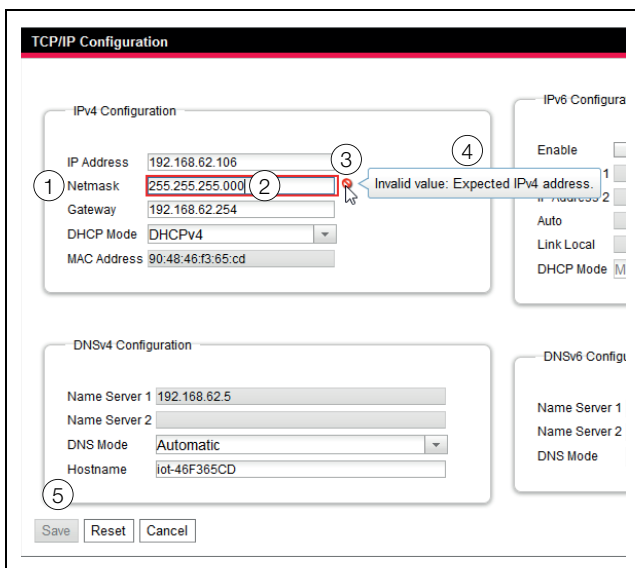

Fig. 22: Display of an incorrect input
- A red "prohibit symbol" (fig. 22, item 3) appears behind the faulty entry (fig. 22, item 2) in the field **Netmask** (fig. 22, item 1).
- When you place the mouse pointer over the prohibit symbol, a notice with additional information about the error appears (fig. 22, item 4).
- The **Save** button is deactivated (fig. 22, item 5) so that the currently stored values cannot be saved.